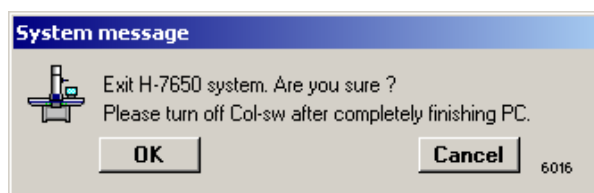

Fig. 2-32 System Message
(4) Caution on Closing of Control Software
- (a) When the software is closed in the normal procedure, a window as shown in Fig. 2-32 opens to confirm closing of the control window. Click the **Cancel** button here. For COL.OFF, use the POWER switch key when the control software has started up.